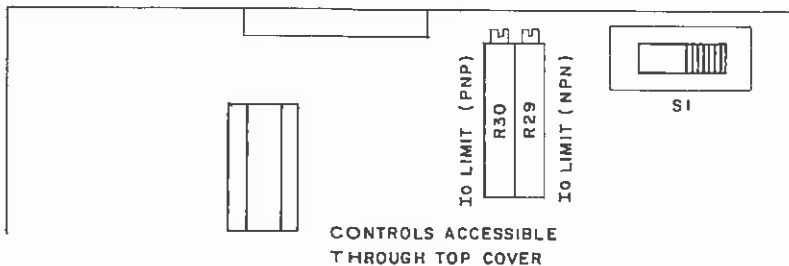

FIG. 2-3 LOCATION OF INTERNAL CONTROLS
c) INTERNAL ADJUSTMENTS. Refer to FIG. 2-3 and Table 2-3.